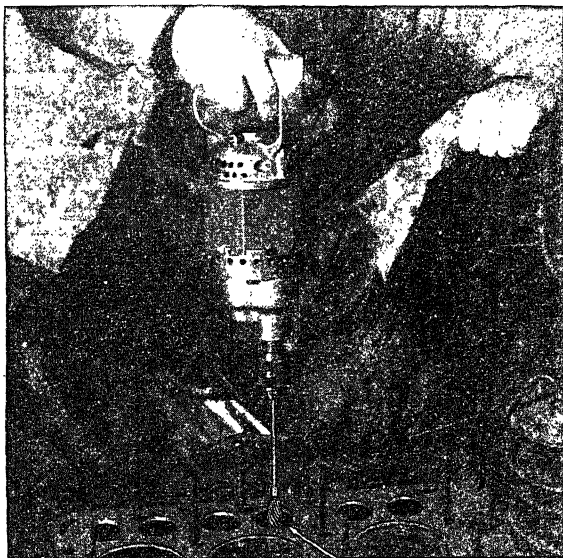

Fig. 29. Using Wire Brush for Cleaning Valve Guides of Carbon and Gummed Materials (Black and Decker Practice)
**Valve Guides.** One of the first things to be done with a valve guide is to have it cleaned of carbon and gum accumulations. This may be done by means of kerosene or gasoline and a rag on the end of a steel rod. Perhaps the better method is to use a wire brush, such as that illustrated in Fig. 29. This is grasped in the chuck of the  $\frac{1}{4}$ -inch electric drill and forced through the valve guide while being rotated by means of the drill. This will ream out the accumulation of gum and carbon and will polish the inside of the valve guide.